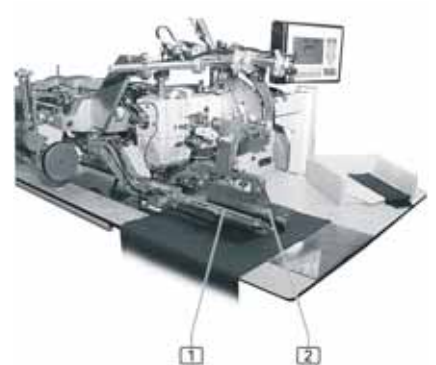

Abb. 16
5. **fig. 16:** Press the right foot switch (machine control); folder **1** is lowered between the two clamp arms. The folding slides extend to fold the piping or welting strip. If necessary, position the flap or pocket pouch. Press the right foot switch (machine control) again; the flap clamp **2** lowers and holds the accessory parts in position on the clamp arms.